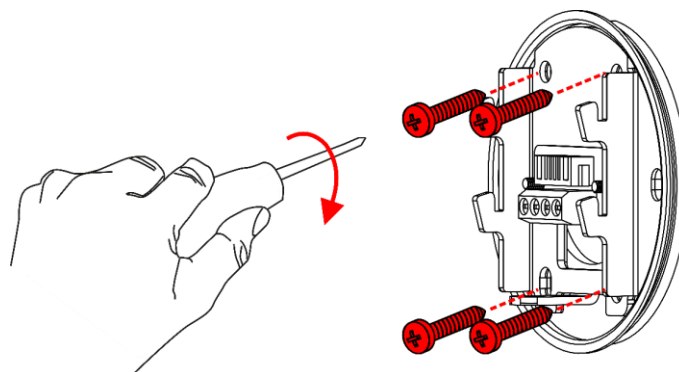

Fig. 16
- 02) Insert and tighten the screws to install the **mounting plate (07)** and the **rubber gasket (08)** on the wall (Fig. 16). The screws shall be at least 12,5 mm long. Do not overtighten the screws as this can damage the **mounting plate (07)**. The damaged **mounting plate (07)** cannot support the weight of the device and can break easily.